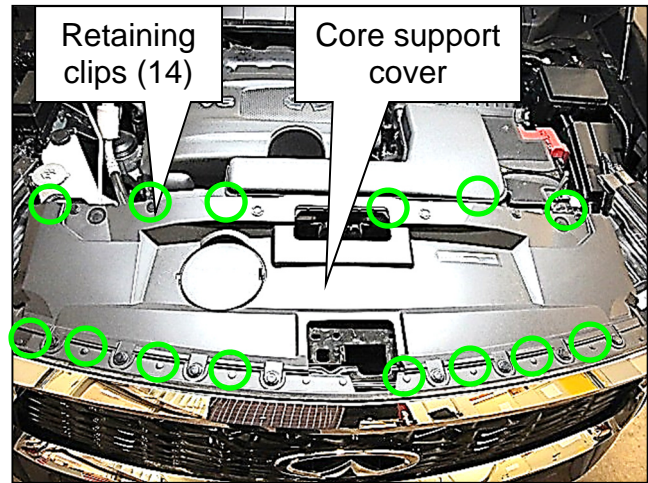

Figure 17
14. Install the core support cover, and then install the fourteen (14) retaining clips (Figure 17).